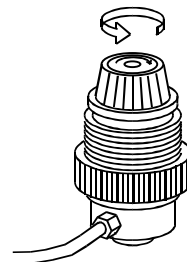

Figure 17 Close Ink Regulator
6. Close all ink regulators fully by turning counterclockwise (*Fig. 17*).